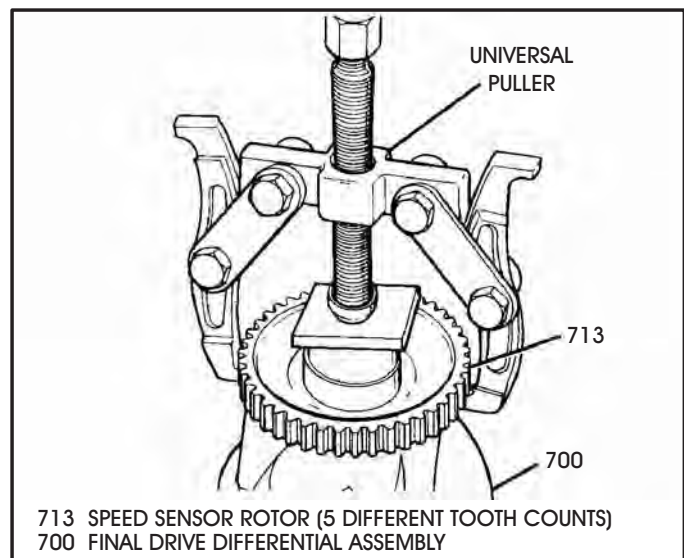

Figure 85
14. If it becomes necessary to remove the speed sensor rotor from the carrier, use the puller shown in Figure 85 to remove it with a thick flat washer to prevent damage to the carrier.